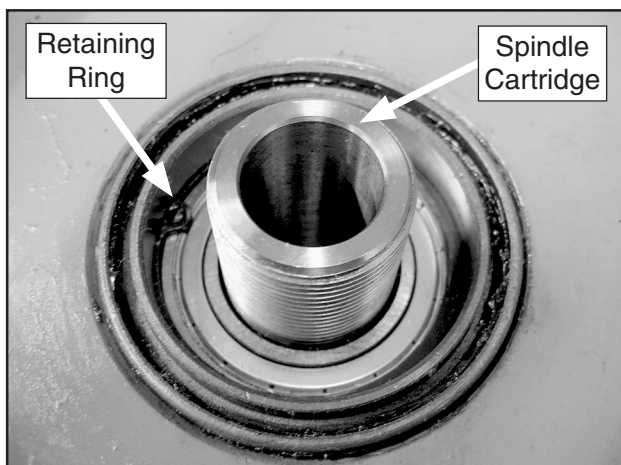

Figure 59. Retaining ring location.
6. Remove the internal retaining ring securing the spindle cartridge (see **Figure 59**).